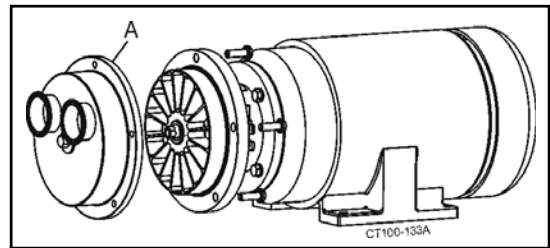

Figure 36 - Install Front Cover
8. Install front cover (Figure 36, item A) on backplate with ports above center of pump.